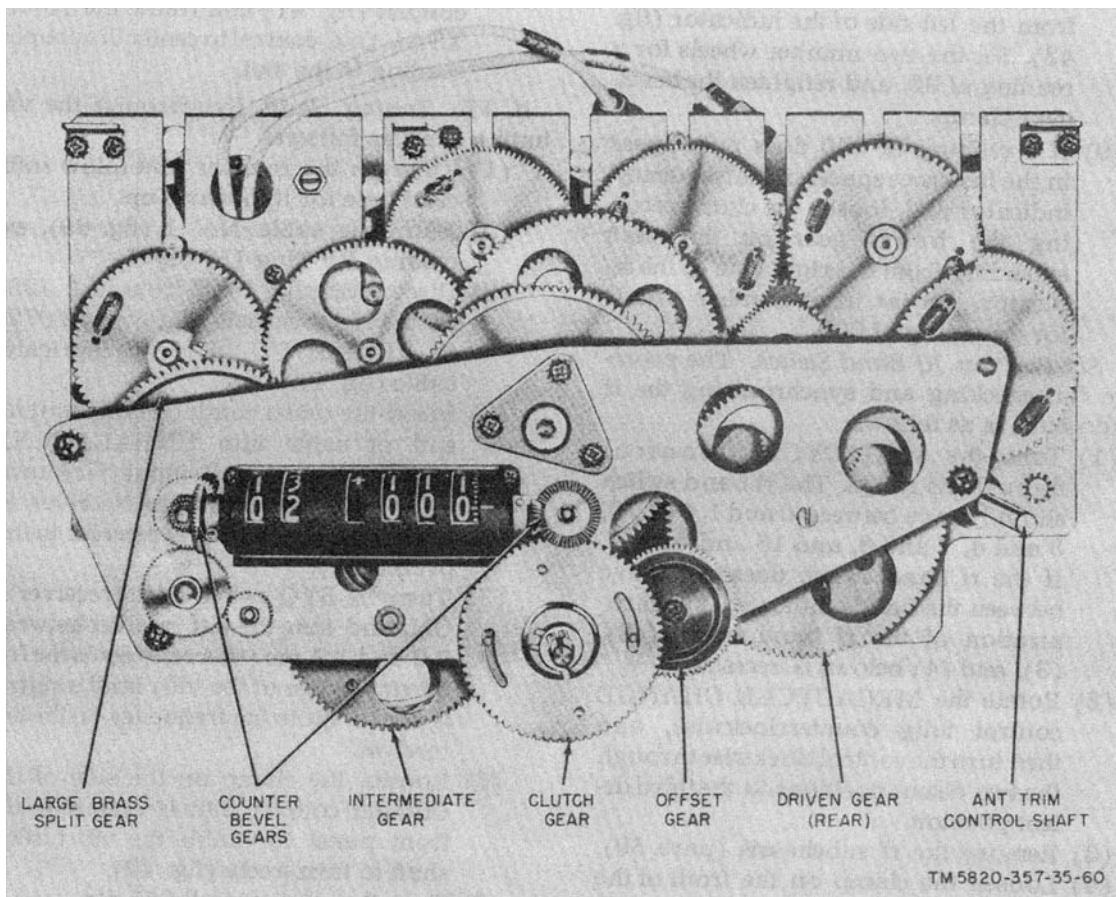
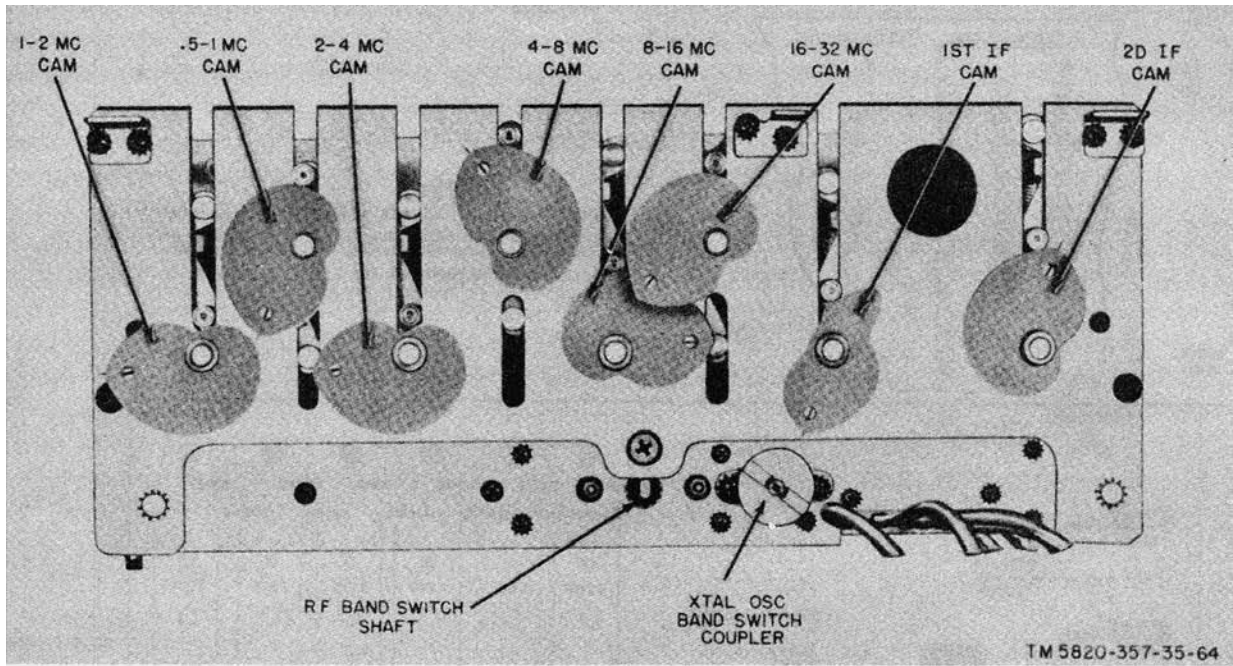

Figure 43. Location of gears.
Figure 44. Location of cams.
### 73. Mechanical and Electrical Synchronization (fig. 43 and 44)
*a. Camshafts.* The camshafts are synchronized properly if the index lines etched on the rear plate of the rf subchassis bisect the holes in each of the rear cams (fig. 44) when the frequency-indicator reading is 02 000. To synchronize the rf subchassis when it is removed from the cabinet, rotate the large brass split gear and the clutch gear (fig. 43) to positions where the frequency-indicator reading is 02 000. If the index lines do not bisect the holes, follow the procedure out-lined in (2) through (7) below. Before replacing the rf subchassis (para 5*b* above to positions where), rotate the two gears mentioned above to positions where the first two digits on the frequency indicator indicate halfway between 99 and 00, and the last three digits read -972. (Note the minus sign.) When the rf subchassis is in the cabinet, proceed as follows:
- (1) Check the 10-turn stop by rotating the MEGACYCLE CHANGE and the KILOCYCLE CHANGE controls fully counterclockwise. The frequency indicator should read halfway between 99 and 00 (off detent position) and -972. (Note the minus sign.) Check the reading on the megacycle
portion of the frequency indicator. If it does not agree, loosen the crystal-oscillator band switch position indicator to see that it agrees with the reading on the Oldham coupler clamp (fig.41) on the crystal oscillator and turn the SYNC XTAL OSC control on the rear panel (TM 11-5820-357-10) until the two readings agree. Tighten the clamp on the Oldham coupler. Check the synchronization of each band by noting the position of the cam rollers at the end frequencies of each band. The position of the 1- to 2-mc band cam shown in figure 44 represents the correct position for the low end of the band. ~~The position of the second rf. cam shown in figure 44 represents the correct position for the high end of the band (the last three digits of the frequency indicator should read 999).~~ If all the cams are out of synchronization, set the 8- to 16-mc cam first.
- (2) If the 1- to 2-mc camshaft (fig. 44) is not positioned properly, loosen the clamp on the front of the shaft and rotate the rear cam until the index line bisects the hole in the cam. Tighten the clamp.
- (3) Position the camshaft for .5- to 1-mc slug rack (fig. 44), if necessary, in the same manner as described in (2) above.
- (4) Check the position of the 8-to 16-mc camshaft. If it is not aligned properly, loosen the clamp on the front of the 2- to 4-mc shaft to position the 8- to 16- mc cam, since the gear for the 8- to 16-mc shaft is pinned through the shaft. After positioning the 8-to 16-mc cam, position the 2- to 4-mc cam while holding the 8- to 16-mc cam in place; then tighten the clamp on the 2- to 4-mc shaft.
- (5) necessary, position the 4- to 8-mc and 16- to 32-mc cams (fig. 44) in the same manner as described in (2) above.
- (6) To position the first variable if. cam (fig. 44), loosen the clamp nearest the front plate of the rf subchassis on the crystal-oscillator band switch shaft. Adjust the position of the cam; then tighten the clamp.
- (7) Position second variable if. cam (fig. 44), if necessary, in the same manner as for the 1- to 2-, .5- to 1-, 4- to 8-, and 16- to 32-mc cams.
- (8) Check the reading of the frequency indicator. If a reading of 02 is not centered within the two left-hand spaces of the indicator, loosen the clamp on the bevel gear on the shaft extending from the left side of the indicator (fig. 43). Set the two number wheels for a reading of 02, and retighten the bevel-gear clamp.
- (9) If a reading of 000 does not appear in the last three spaces of the frequency-indicator dial, loosen the clamp securing the bevel gear on the shaft extending from the right side of the indicator. Set the three number wheels for a reading of 000.
contacts are centered at position 3 by inserting long-nosed pliers in the hole at the rear of the subchassis (fig. 44) and turning the shaft. Positions of the switch contacts are shown in the schematic diagram (fig. 74). Tighten the clamp after adjustment.